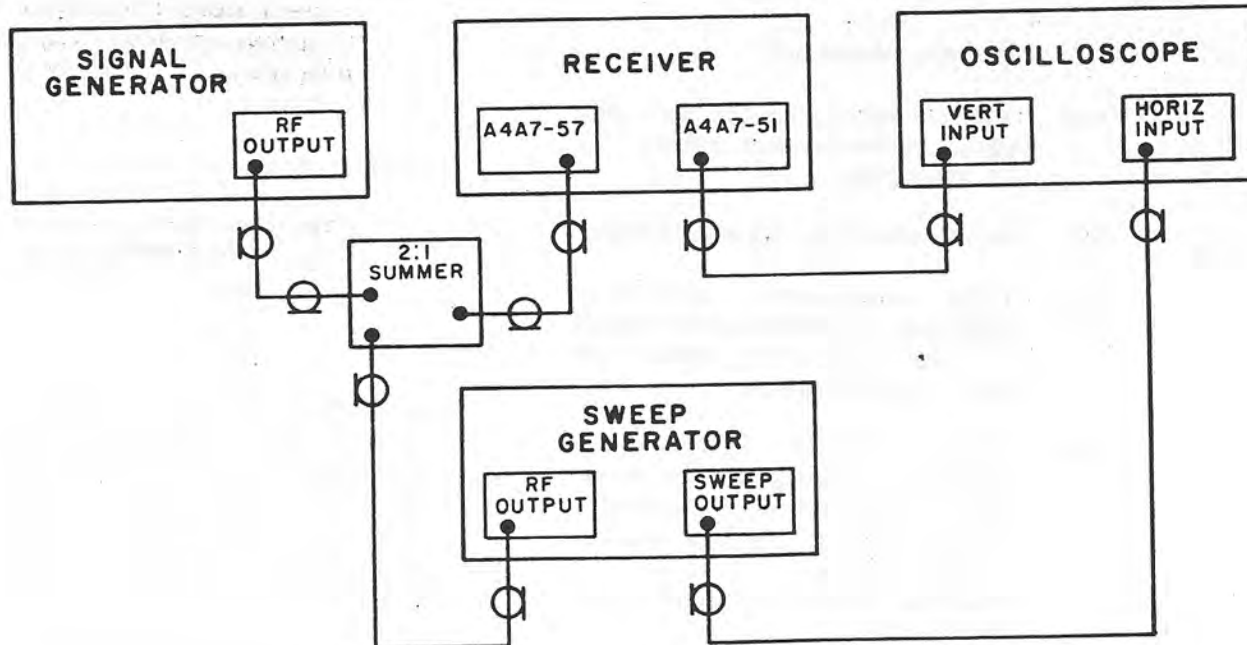

Figure 6-10. Fm Discriminator Alignment, Test Setup
(1) Test equipment required. The following equipment will be required for this test. Refer to table 1-3 for specifics.
(2) Procedures.
- (d) Connect test equipment as shown in figure 6-10.